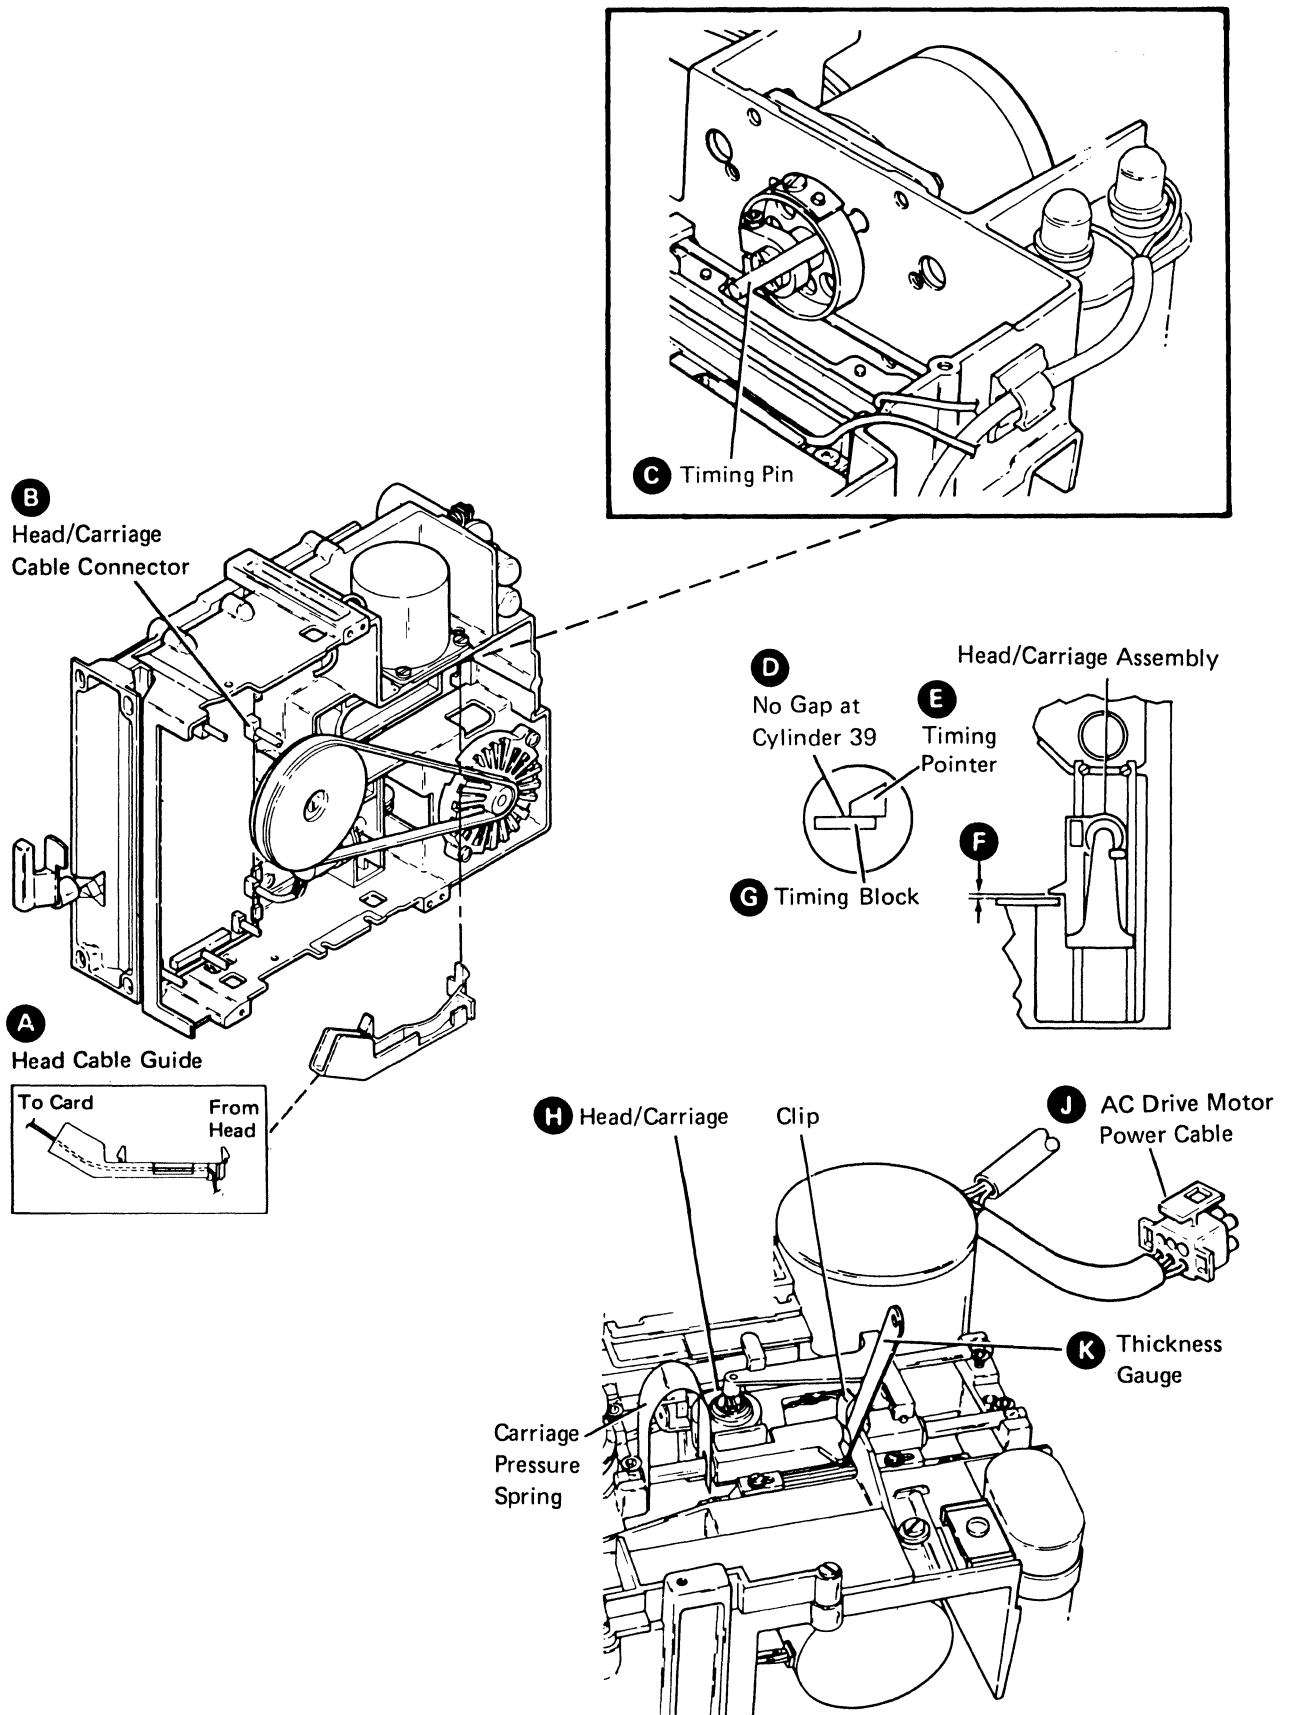

Figure E-22. Head/Carriage Service Check
E.3.2.1 Head/Carriage Service Check (Figures E-22, E-23)